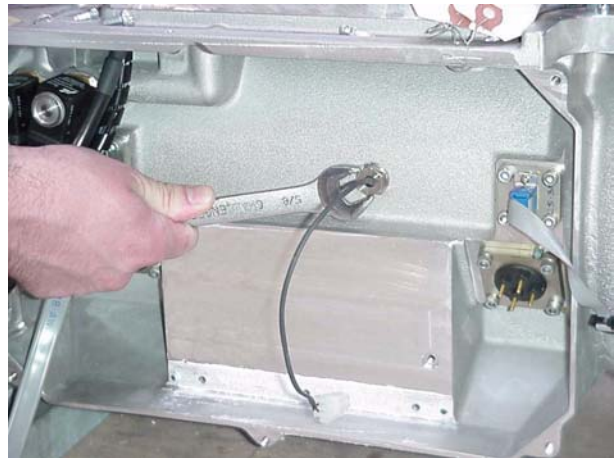

Figure 6-6 Motor Cavity Sensor Removal
3. Using a 5/8" combination wrench, remove the motor cavity sensor. Refer to Figure 6-6.